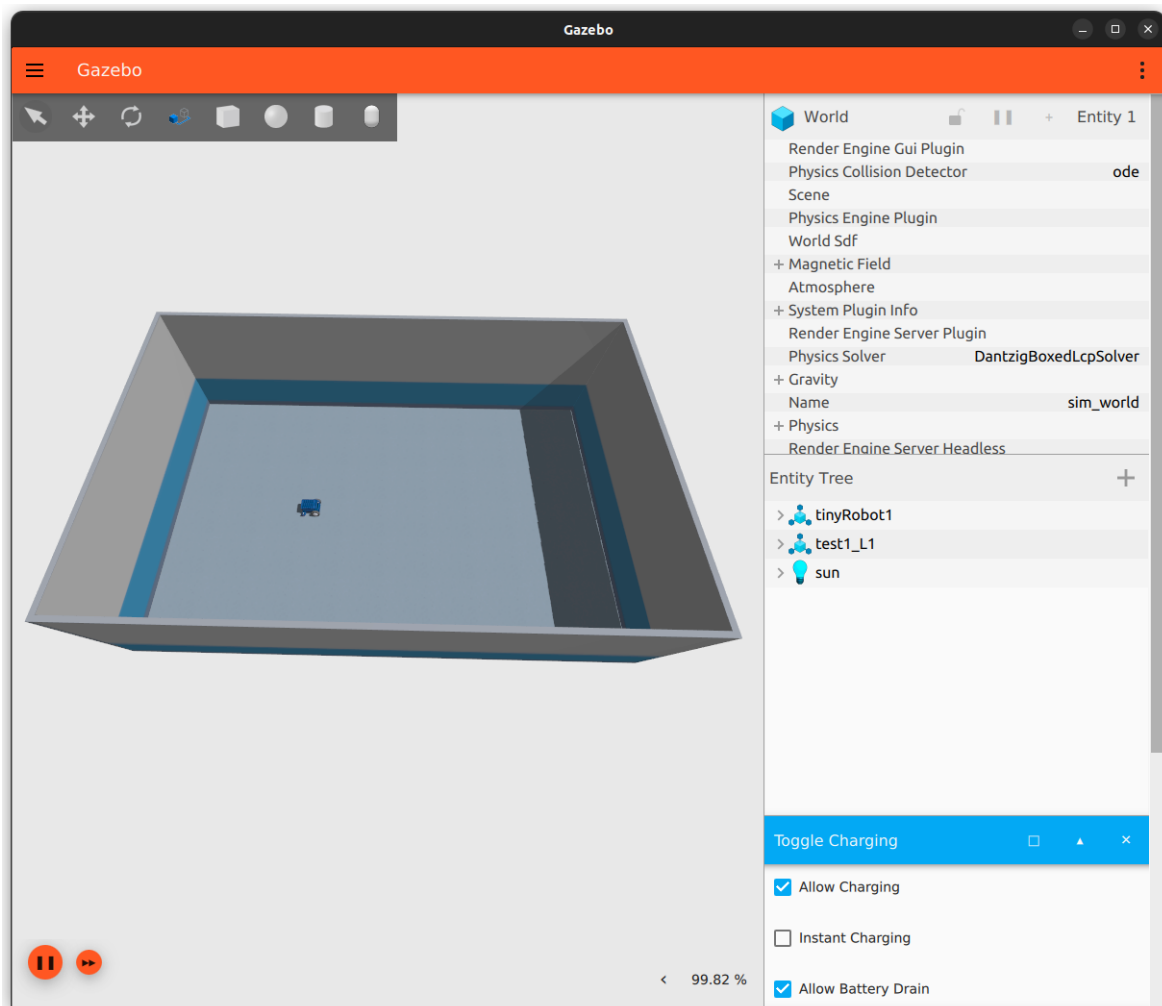

Figure 12: Measurement Simulation
- Add walls to create two rooms that can be traversed through the door to create a similar scenario to Figure 12.